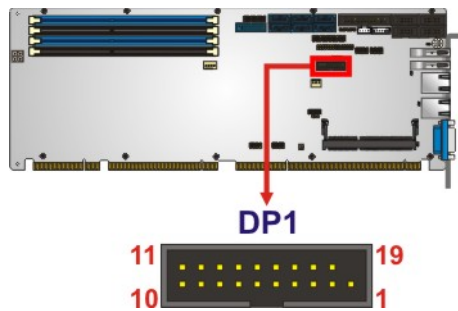

Figure 3-12: Internal DisplayPort Connector Location
- CN Location:** See **Figure 3-12**